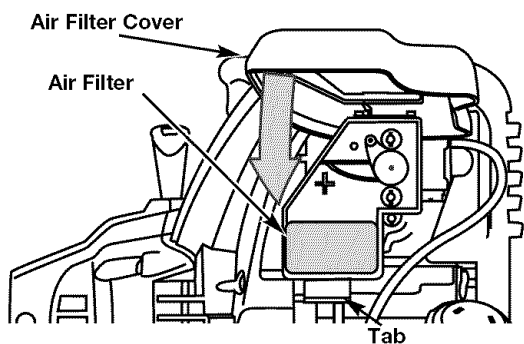

Fig. 36
8. Swing the cover down until the tab on the air filter backplate snaps into place in the slot on the air filter cover (Fig. 36).